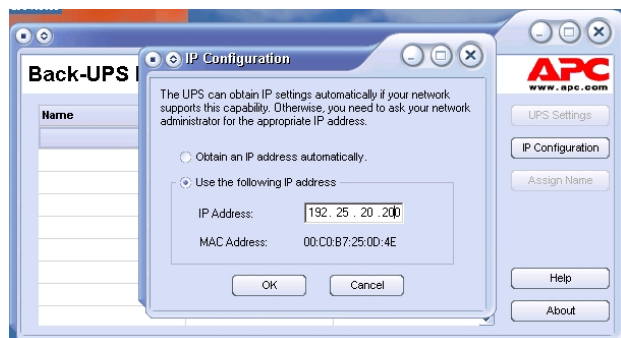
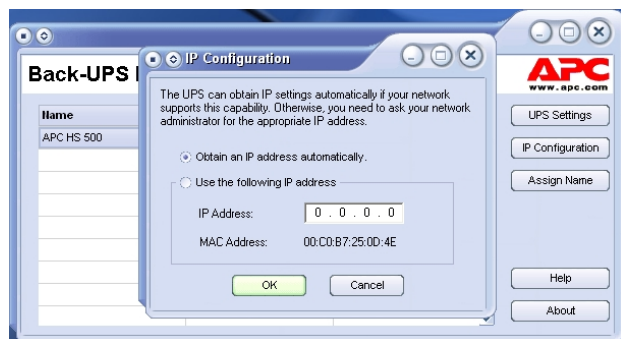

Figure 9. Assign IP Address Screen
Figure 10. Blank Assign IP Address Screen
9. If there are no DHCP services on the network, or if you want to assign an IP Address you can easily remember, you can manually assign an IP Address to the Back-UPS by clicking on the **IP Configuration** button. The address you assign must follow the format shown in Figure 9 and cannot duplicate an address already assigned. Figure 10 shows the IP Configuration Screen with the IP Address fields set to zero (0).